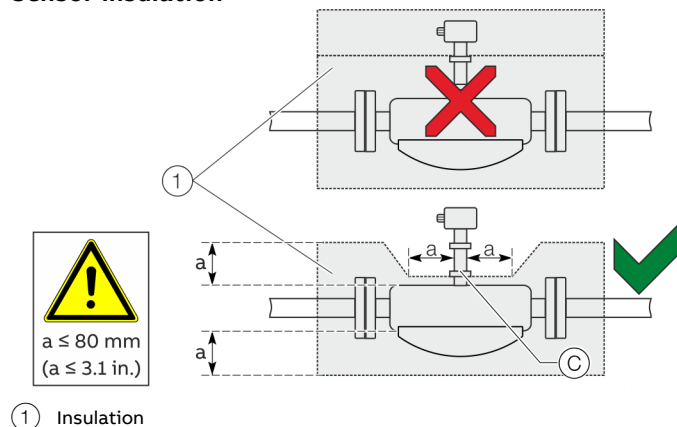

Figure 10: Installation at $T_{\text{medium}} -50^{\circ}\text{C}$ to 205°C (-58 to 400°F)
The sensor may only be insulated in conjunction with the option TE1 'Extended tower length for sensor insulation' or TE2 'Extended tower length – insulation capacity with dual gasket,' as shown in Figure 10.
When operating the sensor in conjunction with heat tracing, the temperature at point ③ (Figure 10) 100°C (212°F) may not be exceeded at any time!